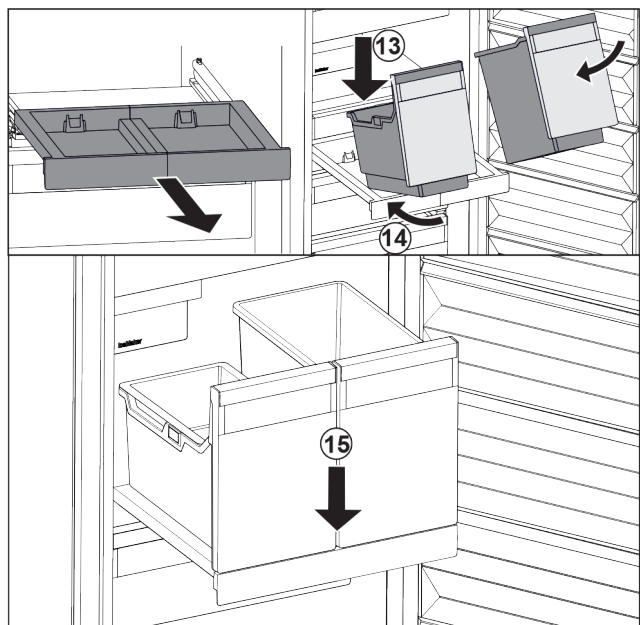

Fig. 124
- ▶ Place the container at an angle on the pull-out board. Fig. 124 (13)
- ▶ Slide the container to the back at an angle. Fig. 124 (14)
- ▶ Place container in the front. Fig. 124 (15)